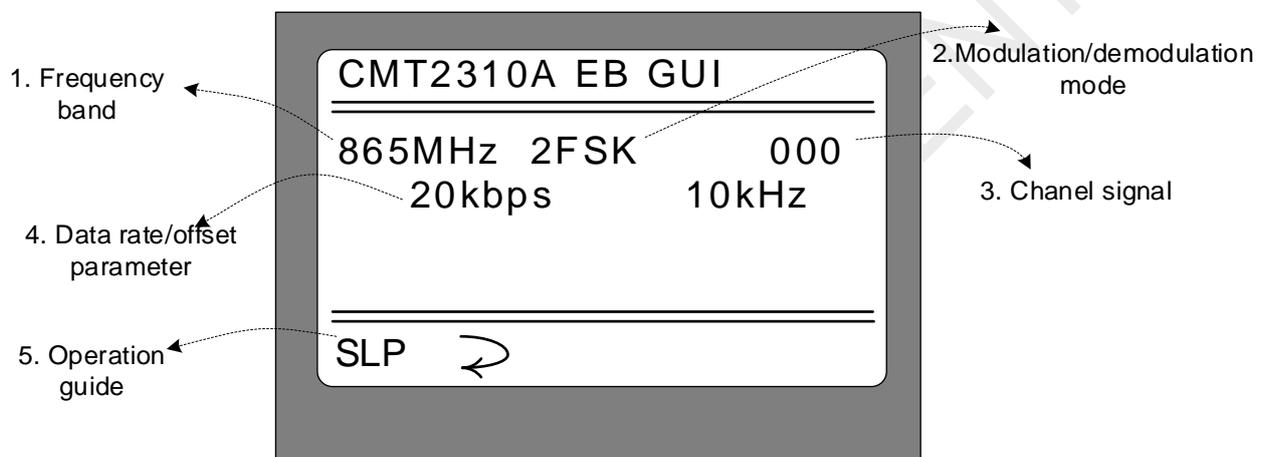

Figure 3-1. Sleep mode interface
Selecting "Sleep" mode and short pressing K1 “○” in the main menu interface to enter Sleep working mode, as shown in Figure 3-1 below.
2. In this interface, press K2 to make CMT2310A exit Sleep mode and return to the upper menu (that is, the screen shown in Figure 3-1. To return to the main menu, press K2 again).